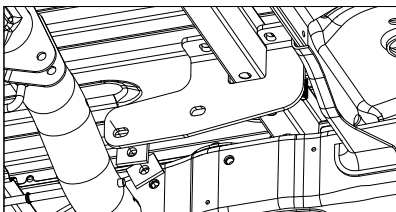
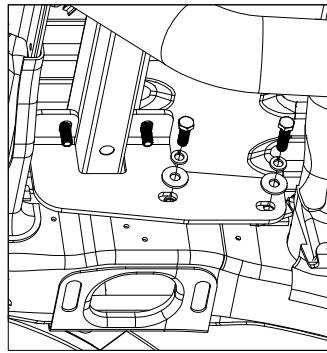

FIGURE B2: View looking up at passenger side frame.
FIGURE B3: View looking up at driver side frame.
- 3. Install the front brackets.** Locate the two front brackets, four round hole rectangle washers, two M12 x 45 mm hex head bolts (longer), two M12 x 35mm hex head bolts (shorter), four 1/2" split lockwashers, and four 1/2" flat washers. Due to curvature of the frame the forward hole in each front bracket will need to be supported with two round hole rectangle washers. See figure B2. Using a 1/2" lockwasher and 1/2" flat washer, Thread the longer (45mm) M12 hex head bolt into the frame through the forward holes in the brackets and through both round hole rectangle washers. Again, Using a 1/2" lockwasher and 1/2" flat washer, Thread the shorter (35mm) M12 hex head bolt into the frame through the remaining holes. See figures B3 and B4. Do not fully tighten at this time.